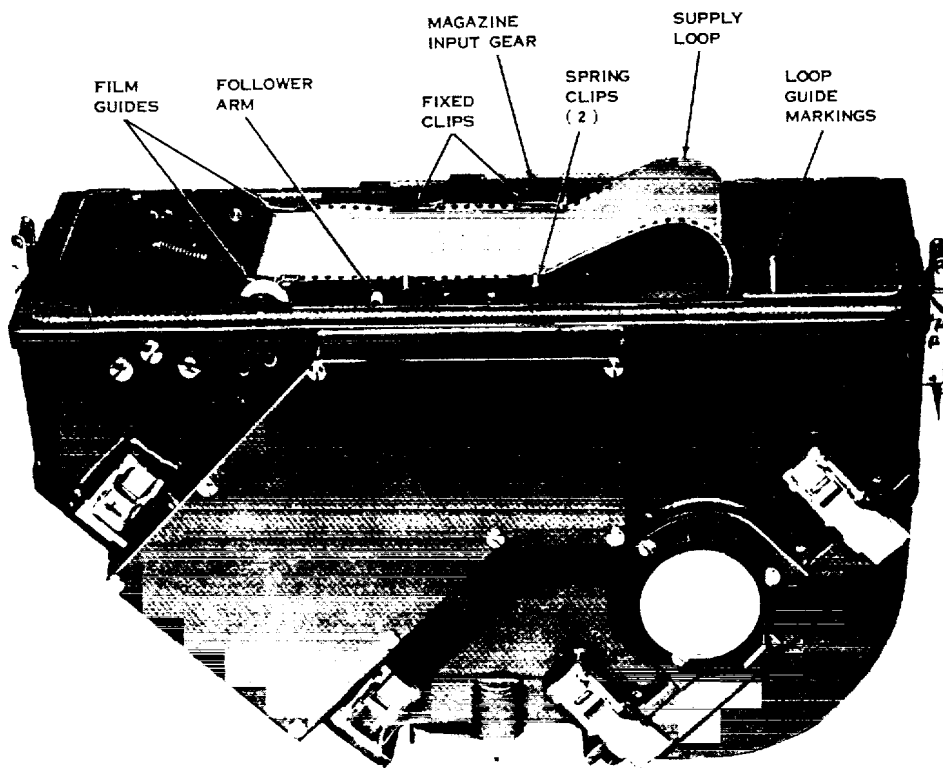

Figure 19. Camera Threading, Subdued Light Procedures (6).
j. Insure that follower arm is under film edge (adjacent to non emulsion side of film) (fig. 19).
m. Holding magazine with one hand and grasping film with other hand, rapidly pull 18 to 24 inches of film from magazine takeup side. Check to insure that proper film loop exists on under side of magazine (fig. 19).
b. Cut the film at the supply loop (fig. 19).